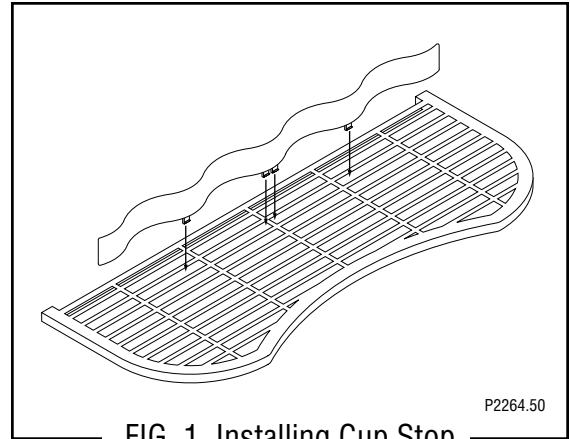

FIG 1 Installing Cup Stop
2. Assemble the cup stop in the third slot of the drip tray cover as shown in Fig 1.